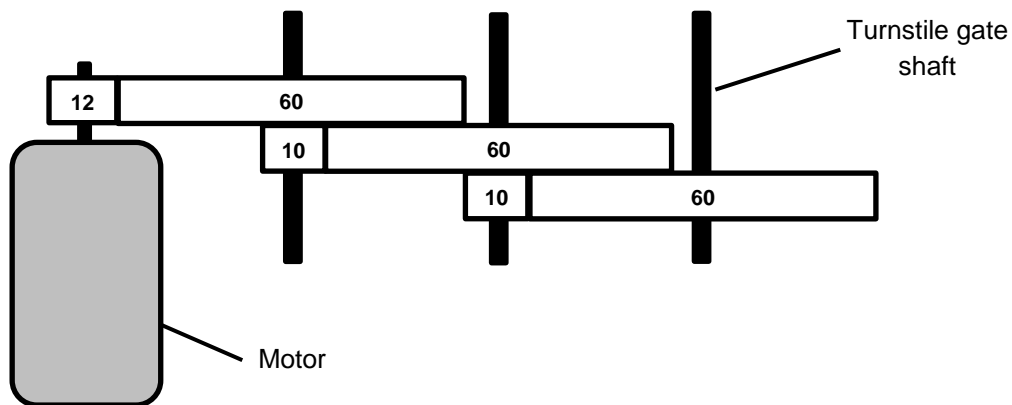

Fig. 8
- (b) Fig. 8 shows the plan view of the compound gearing system within the turnstile. The numbers indicate the number of teeth on each spur gear.